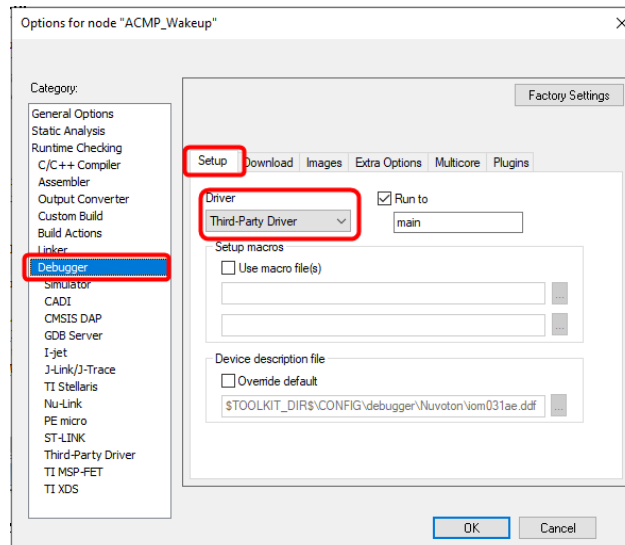

Figure 4-16 Set IAR EWARM as Third-Party Driver for Debugger & Programmer
Step 4: In the **Setup** tab of the **Debugger** page, select **Third-Party Driver** as the driver, as shown in Figure 4-16.